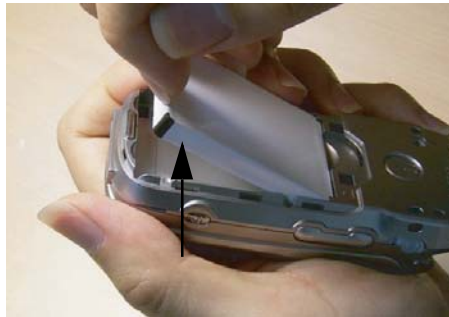

Figure 6. Removing the Battery
2. Remove the battery by lifting its bottom end and taking the battery up and away from the battery compartment as shown in Figure 6.